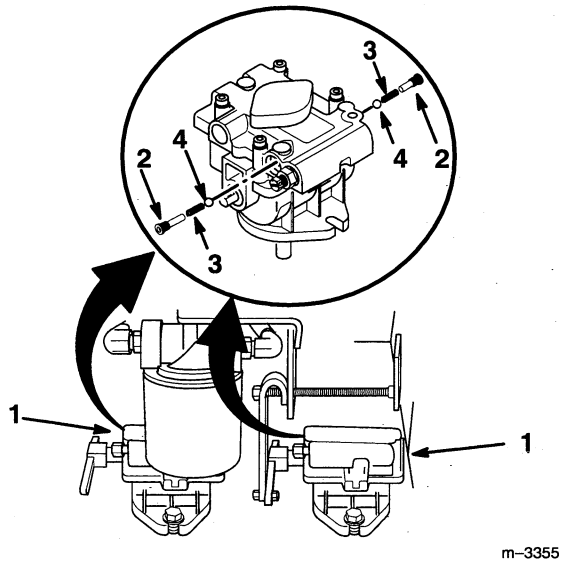

Figure 2
6. Clean area of both hydraulic pumps around existing ball check valves (Fig. 2).
7. Unscrew existing check valves from both pumps and remove and discard the plugs and springs (Fig. 2).
8. Using a pencil magnet, remove the valve balls (Fig. 2). Discard the balls.